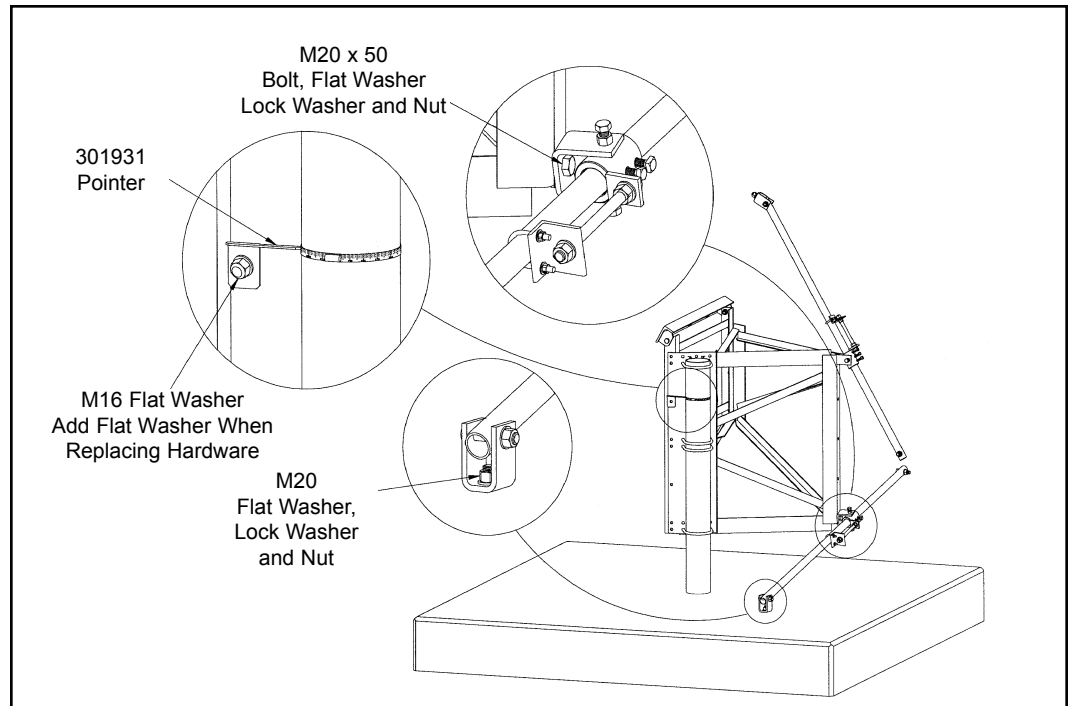

Figure 3-29g: Azimuth Strut/Pointer Attachment
- Step 5* Attach the azimuth strut to the bottom rear of the frame assembly as shown in Figure 3-29g, using the M20 x 50 long bolt, nut, flat washer and lock washer. Attach the strut to the foundation anchor, as shown in Figure 3-29g.
- Step 6* Install 301931 pointer where shown in Figure 3-29g by removing the mount bolt at specified location then reinstalling with flat washer and pointer. Choose appropriate 221027 azimuth label for antenna location (Northern or Southern Hemisphere) and attach to 11809-24 clamp. Slide scale behind pipe and align with pointer and tighten. See Figures 3-29g and 3-29h.